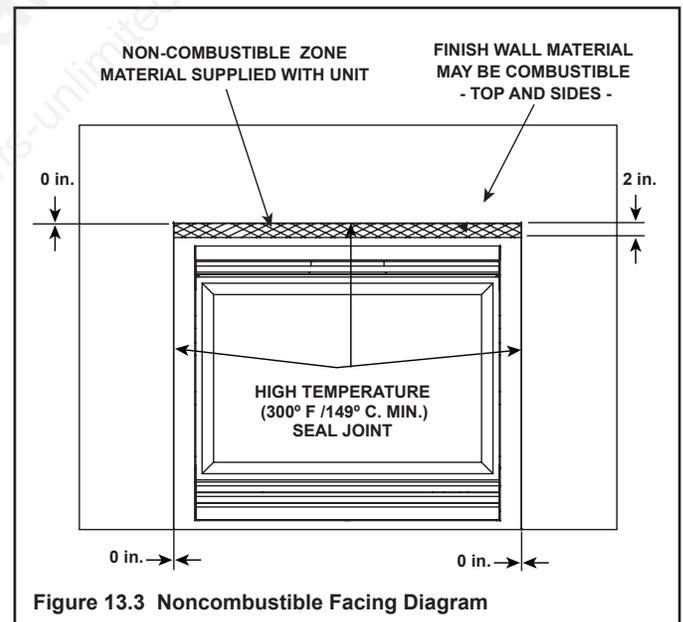

Figure 13.3 Noncombustible Facing Diagram
- Seal joints between the finished wall and appliance top and sides using a 300 °F minimum sealant. Refer to Figure 13.3.